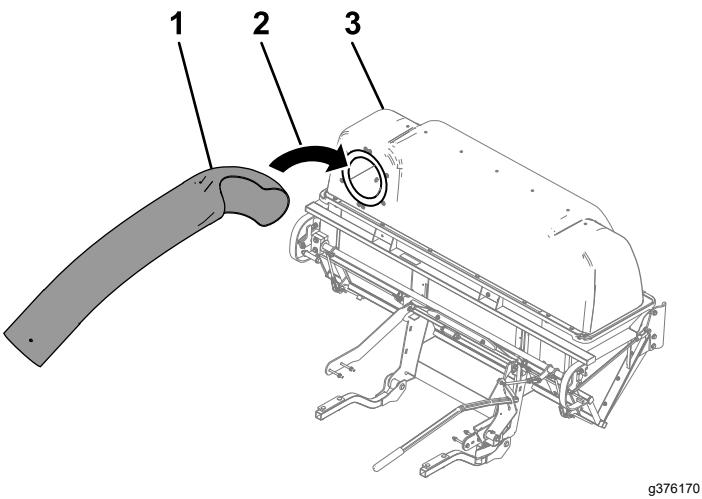

Figure 38
4. Install the upper tube into the bagger opening and pull it back out so that the rubber seal is protruding out (Figure 38).